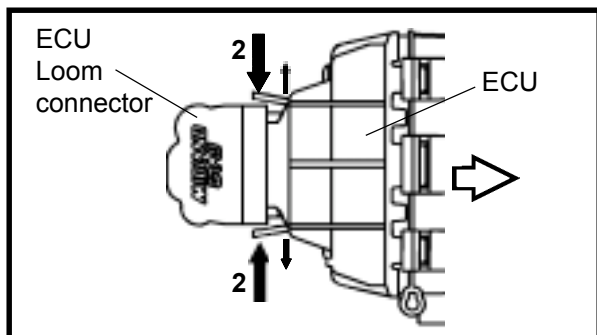

Fig 4.3 DISCONNECTION OF ECU
3. Press together the connector clips on the loom connector, see Fig. 4.3 and pull the ECU away from the connector housing.